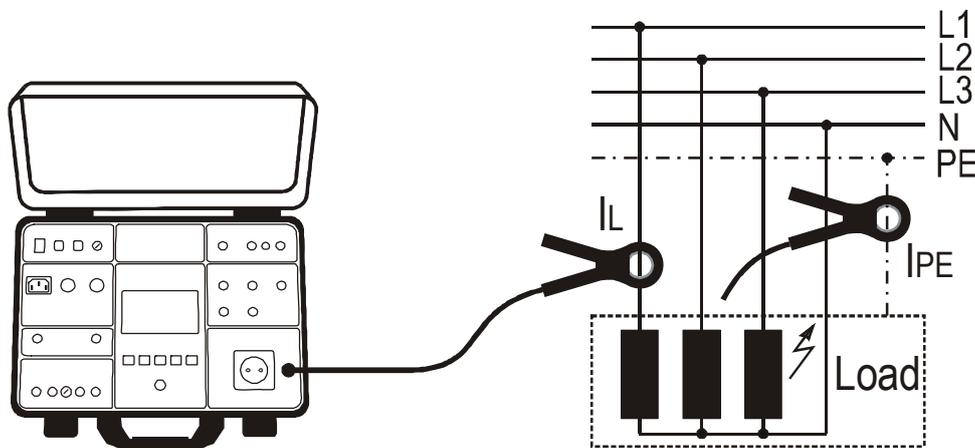

Figure 42: Connection of current clamp in ICLAMP measurement
- 7) Start the measurement by pressing the **START/STOP** button. The measurement will start to run and will be stopped after pressing the **START/STOP** button again. Measurement result will be currently displayed in green colour if it is lower than or equal to set limit value or in red colour if it is higher than set limit value. Final result will be equipped with green  symbol and with beep-beep sound if it is OK or with red  symbol and with longer beep sound if it is not OK. See the display outlook with test result on the figure 42.